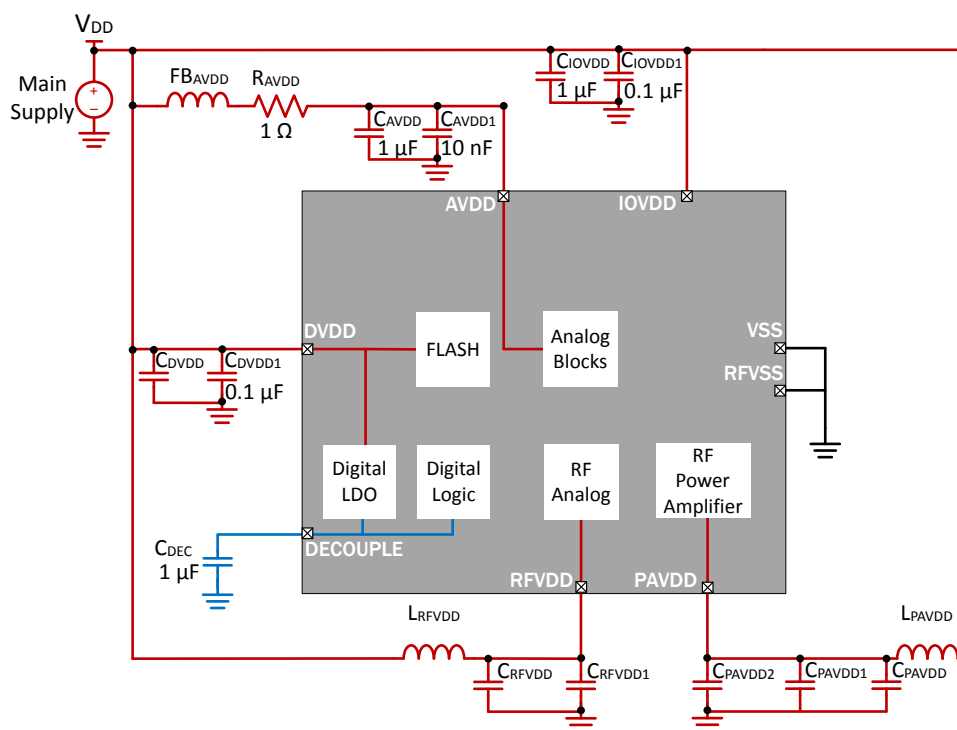
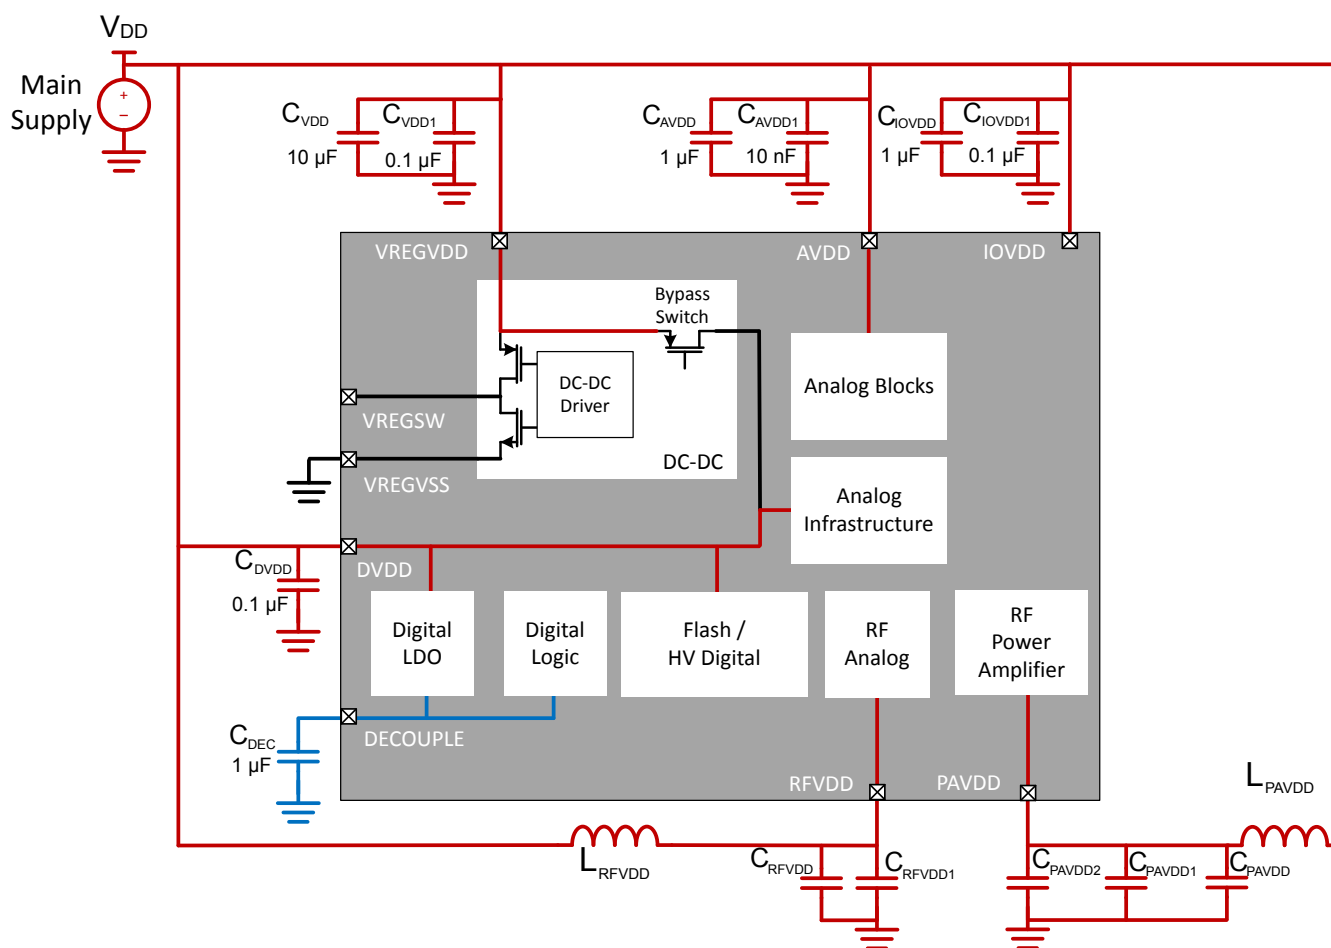

Figure 3.2. EFM32 and EFR32 Wireless Gecko Series 2 Improved AVDD Filtering Example
Figure 3.3. EFM32 and EFR32 Wireless Gecko Series 2 No DC-DC
- Updated language regarding L_{PAVDD} location in footnote of Figure 3.1 EFM32 and EFR32 Wireless Gecko Series 2 Standard Decoupling Example on page 16, Figure 3.2 EFM32 and EFR32 Wireless Gecko Series 2 Improved AVDD Filtering Example on page 17, and Figure 3.3 EFM32 and EFR32 Wireless Gecko Series 2 No DC-DC on page 18.